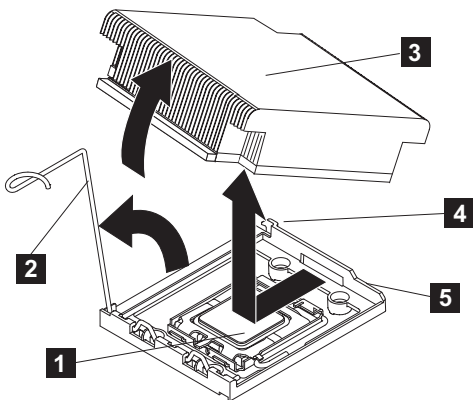

Figure 250. Removing the heat sink from the SAN Volume Controller 2145-CG8 or 2145-CF8 microprocessor
8. Disconnect any cables that impede access to the heat sink ( **3** in Figure 250) and the microprocessor ( **1**).